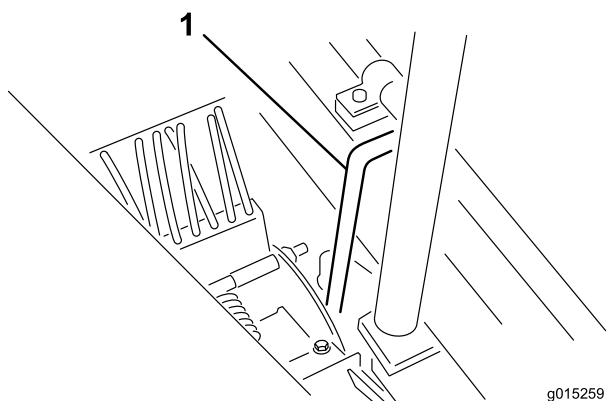

Figure 9
1. Lift each end of the reel and remove the transport hooks before operating the machine (Figure 9).